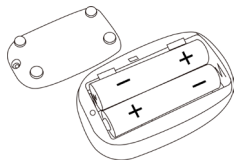

Figure 3 Batteries installation
- Step 1. Refer to Figure 3. and insert the two AAA size batteries properly in the right direction.